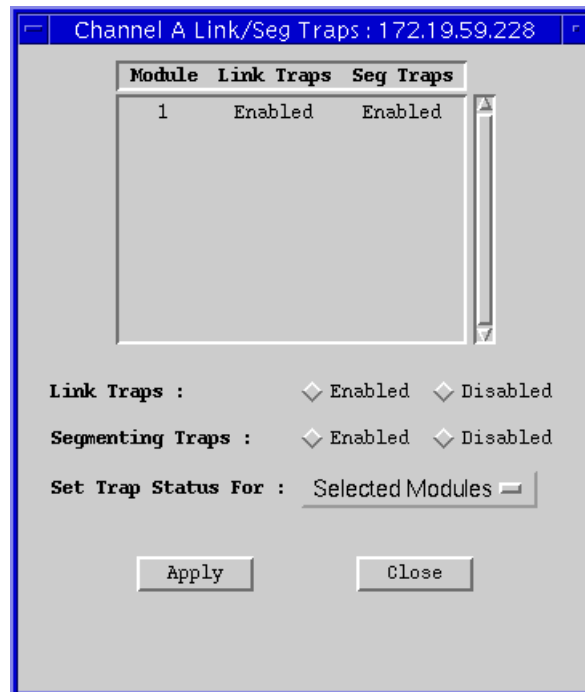

Figure 3-3. The Module Traps Window
2. Click mouse button 1 on ; the Module Traps window, Figure 3-3, will appear.